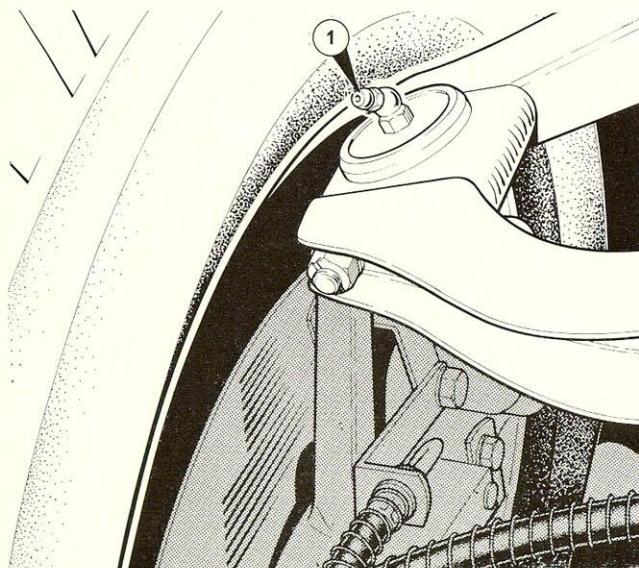

Figure 41 Upper wishbone ball-joint
Lubricating nipples are situated at the upper wishbone ball-joints at (1) see **Figure 41** and at the lower trunnions (1) **Figure 42**. Apply three or four strokes of the grease gun every 3,000 miles (5,000 km).